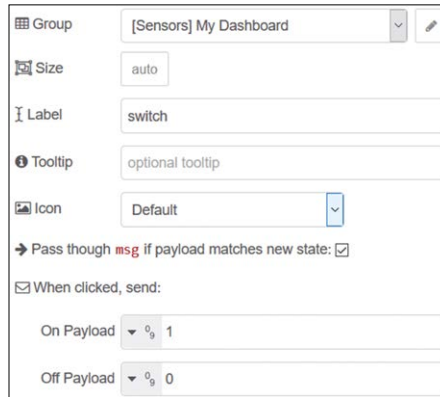

Figure 8.26 Configure the switch node
- Create a **switch** node and set the **On Payload** to 1, and **Off Payload** to 0, as shown in Figure 8.26, click **Done**